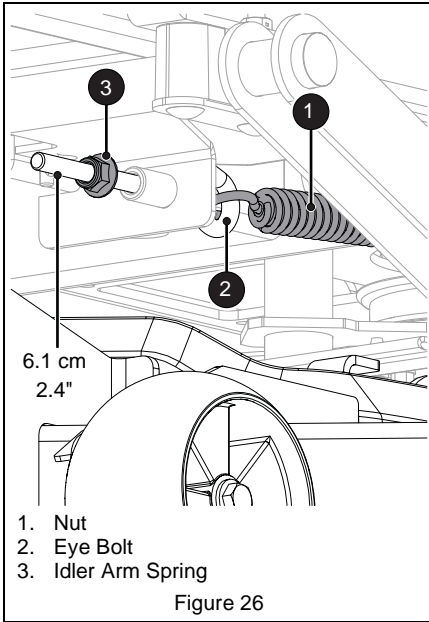

Figure 26
4. Loosen nut on eye bolt and disconnect idler arm spring. See Figure 26.
5. Reconnect idler arm spring to eye bolt and secure bolt to unit with nut. Tighten until the nut is 6.1 cm (2.4") from the threaded end of the eye bolt. See Figure 26.